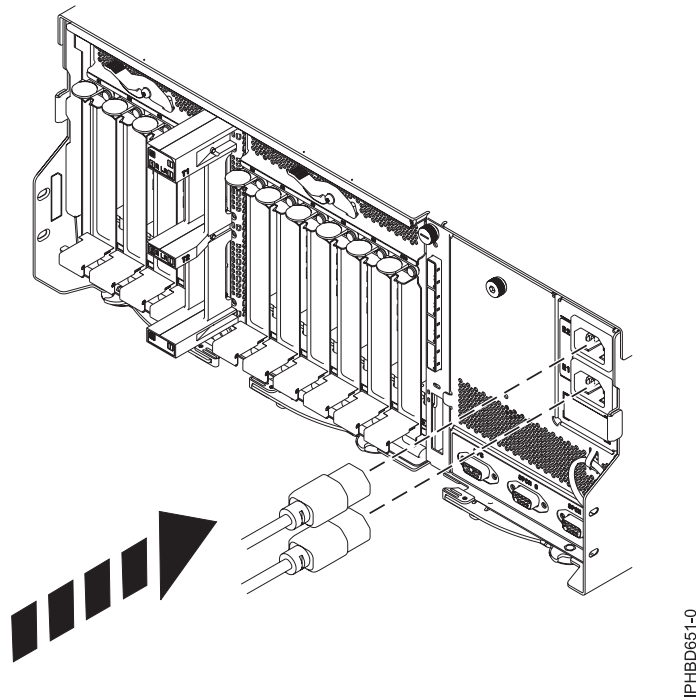

Figure 32. Connecting the power cables at the rear of an expansion unit
7. At the rear of the expansion unit, connect both of the power cables, as shown in Figure 32.